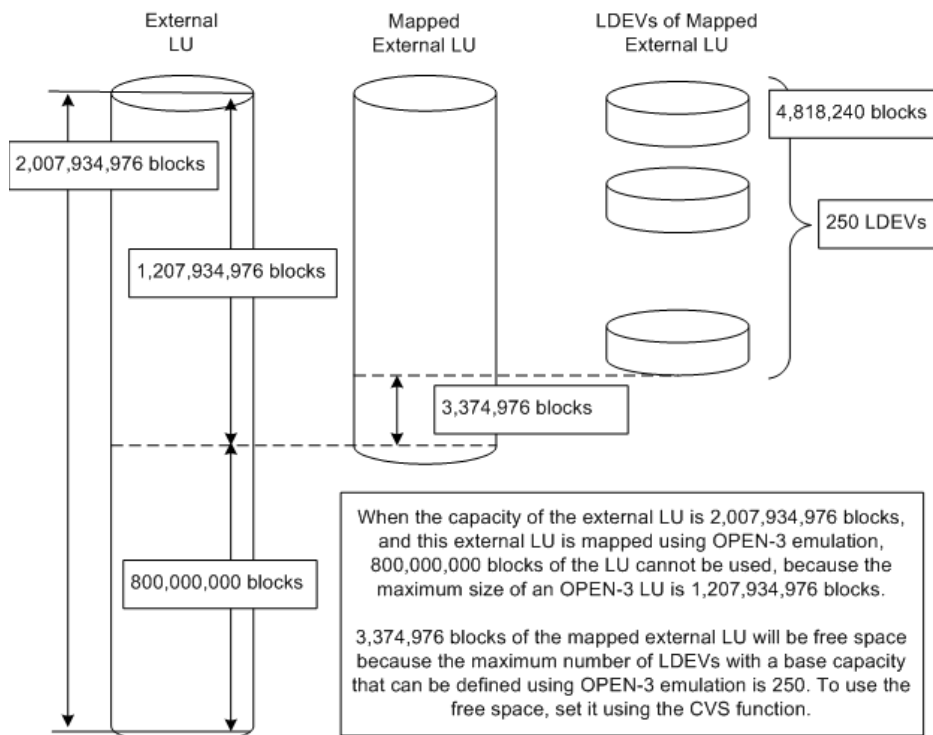

Figure 396: How to calculate LU capacity (OPEN-3 example)
When you map an external LU as a local disk array internal LU, you need to specify the emulation type for the mapped LU. Figure 396 shows how to calculate the LU capacity for an OPEN-3 emulation.
- Maximum capacity for external LUs (1,207,934,976 blocks in our example). When the capacity of the mapped external LU is greater than the defined maximum capacity for the specified emulation type (as shown in Figure 396), part of the LU space cannot be used in the external LU.
- Base LDEV capacity (4,818,240 in our example). When the capacity of the external LU is less than the base capacity of the specified emulation type, a Customized Volume (CV) is created in the external LU when you map the volume. When the capacity of the external LU is more than the base capacity of the specified emulation type, the external LU is divided into multiple LDEVs, each of which have the base capacity. However, with OPEN-V emulation there is no concept of the base LDEV capacity. Because the OPEN-V emulation supports a maximum volume size of 2TB, one LDEV is always created when the external LU is mapped.